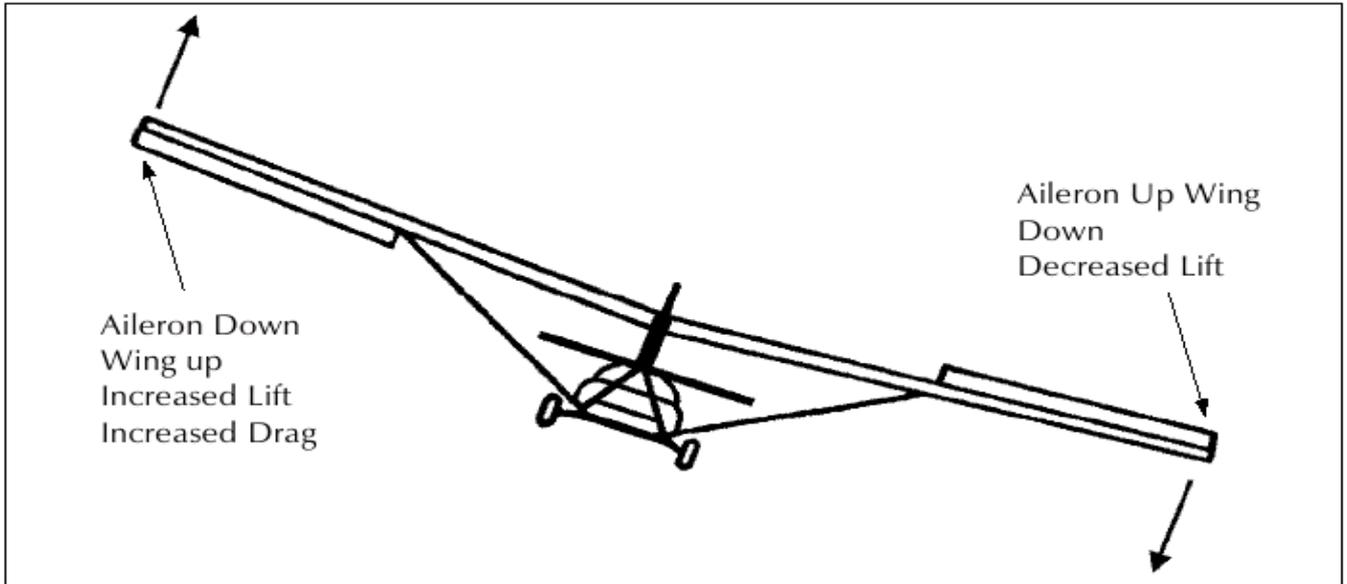

Fig. 16 Effect of right control stick (rear view).
- **Ailerons:** The two ailerons, located at the trailing edge of the wing, are moveable surfaces that control movement about the longitudinal axis. On some types these surfaces span the entire trailing edge of both wings. As one aileron surface is lowered, the other is coupled so that it is raised. The wing with the raised aileron goes down because of decreased lift. Moving the control stick to the right moves the left aileron down and the right aileron up, rolling the microlight to the right. This happens because the down going left aileron increases the wing curvature (camber) and thus increases the angle of attack. The right aileron moves upward and decreases the camber, resulting in a reduced angle of attack. Thus the decreased lift on the right wing and the increased lift on the left wing causes a roll and bank to the right. See Fig. 16.